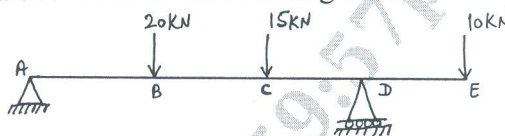

Fig.Q.5
- 5 Draw shear force and bending moment diagram for the beam shown in Fig.Q.5 marking values at salient points. Locate the point of contra flexure and point of maximum bending moment. Determine the values of maximum bending moment. (16 Marks)